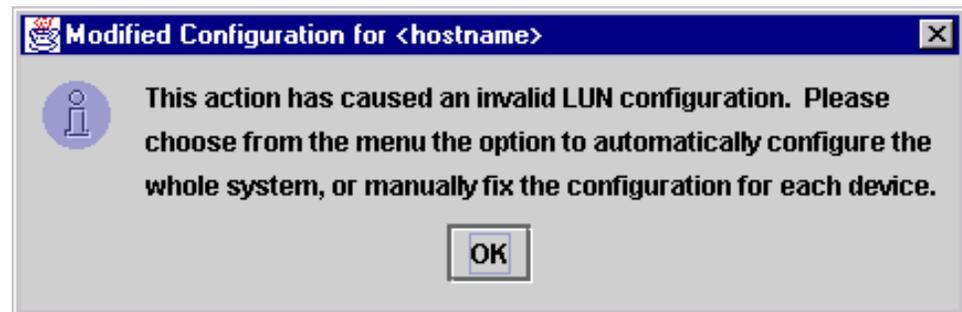

Figure 87. Modified Configuration Error Dialog Window
- Click **Set Unconfigured** to set this path as not visible to the operating system. The path is not used in failover conditions. If setting the path has caused the LUNs associated with this device to have an invalid configuration, the error message shown in Figure 87 is displayed.